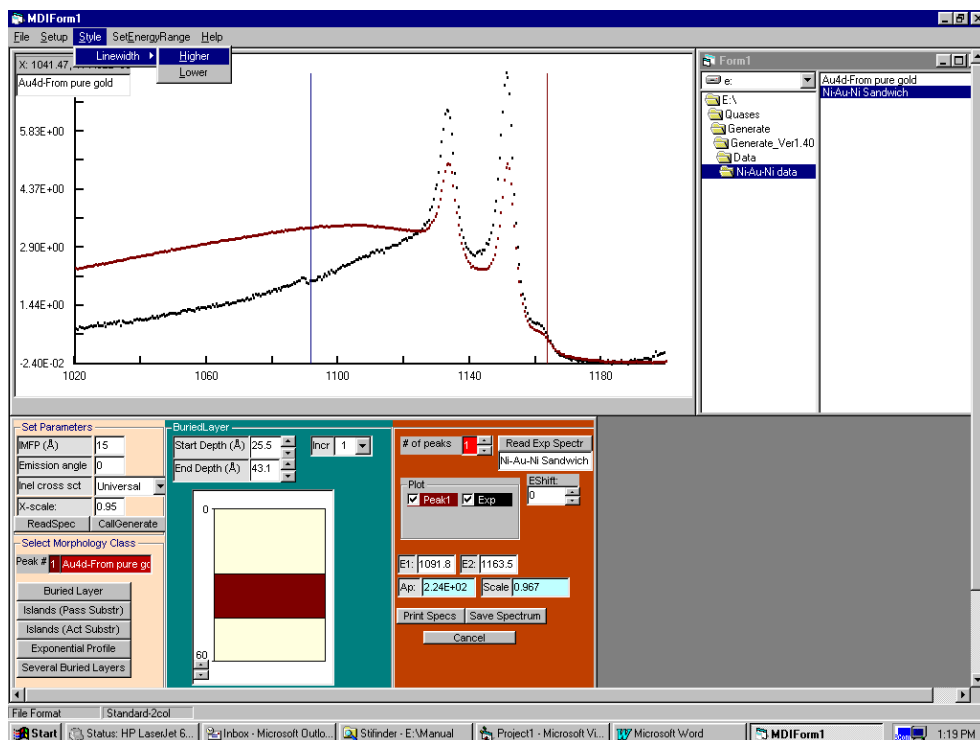

Figure 5.7
- Change the **Start Depth** and **End Depth** until a good fit is obtained (see figs.5.7 and 5.8).
- With the mouse, move the two vertical lines in the plot so they cover the main part of the peak structure. Note that **Scale** differs from 1.00. This is because the thickness of the in depth profile in fig.5.7 is still off (by the factor **Scale**).